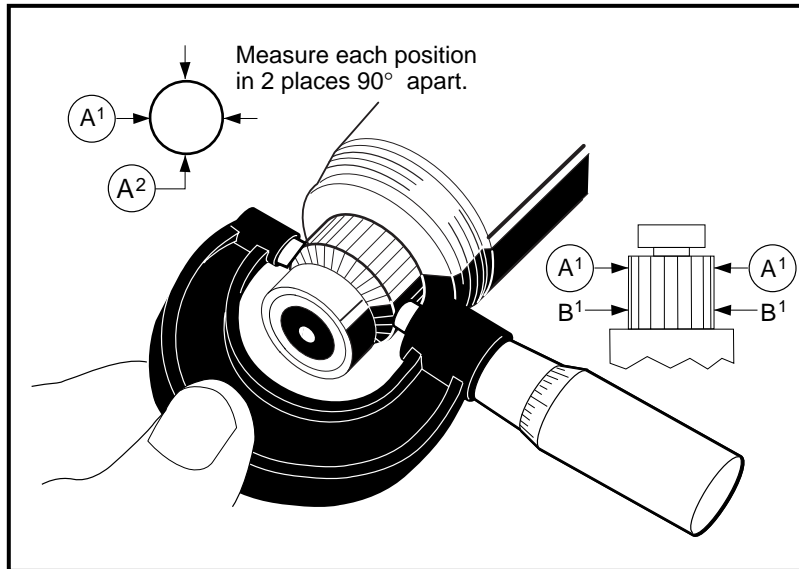

Figure 12-12 Inspect Commutator
2. Using a micrometer, measure the outside diameter at two points along the commutator. If the commutator outside diameter is less than 1.535 inches (39 mm), replace the armature and bearings (**Figure 12-12, Page 12-9**).